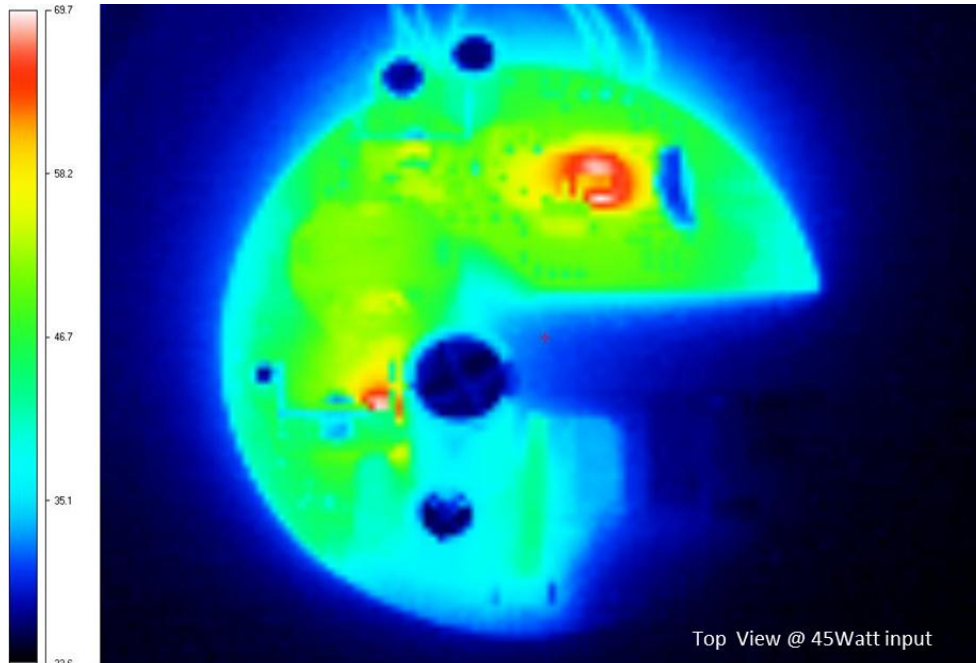

Figure11: PCB top side thermal image at 230Vac/ 45Watt input power
5. **Thermal Image of test board:** Figures 11 and 12 shows thermal image of top and bottom of test board at 25⁰ Celsius ambient during 45watt input power. The maximum temperature rise of ~55⁰ Celsius is observed at DRV10983 case and snubber-diodes (D8/D9).